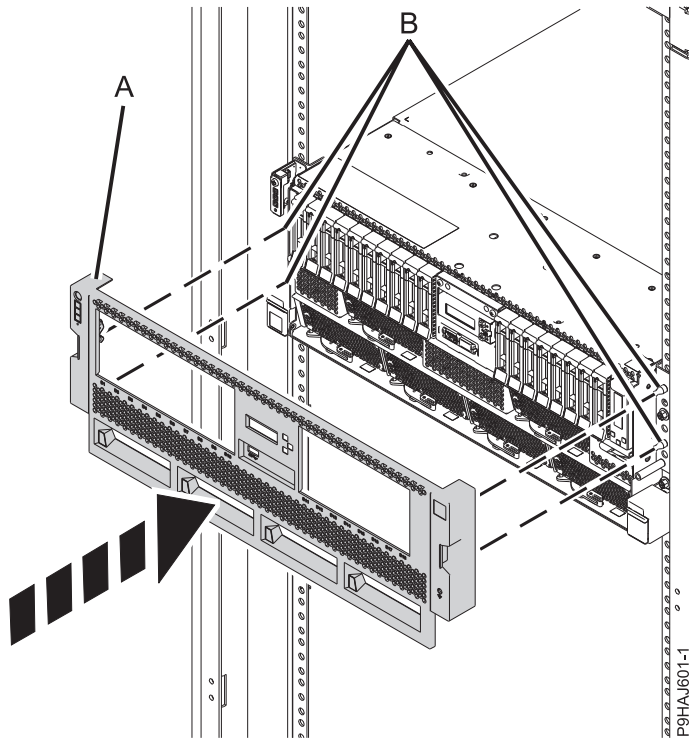

Figure 11. Installing the front cover
2. Gently push the front cover (A) in until the cover snaps into place. The cover has indentations where you can hold it more easily. Use the alignment pins (B) to secure the cover to the system as shown in Figure 11 on page 24.